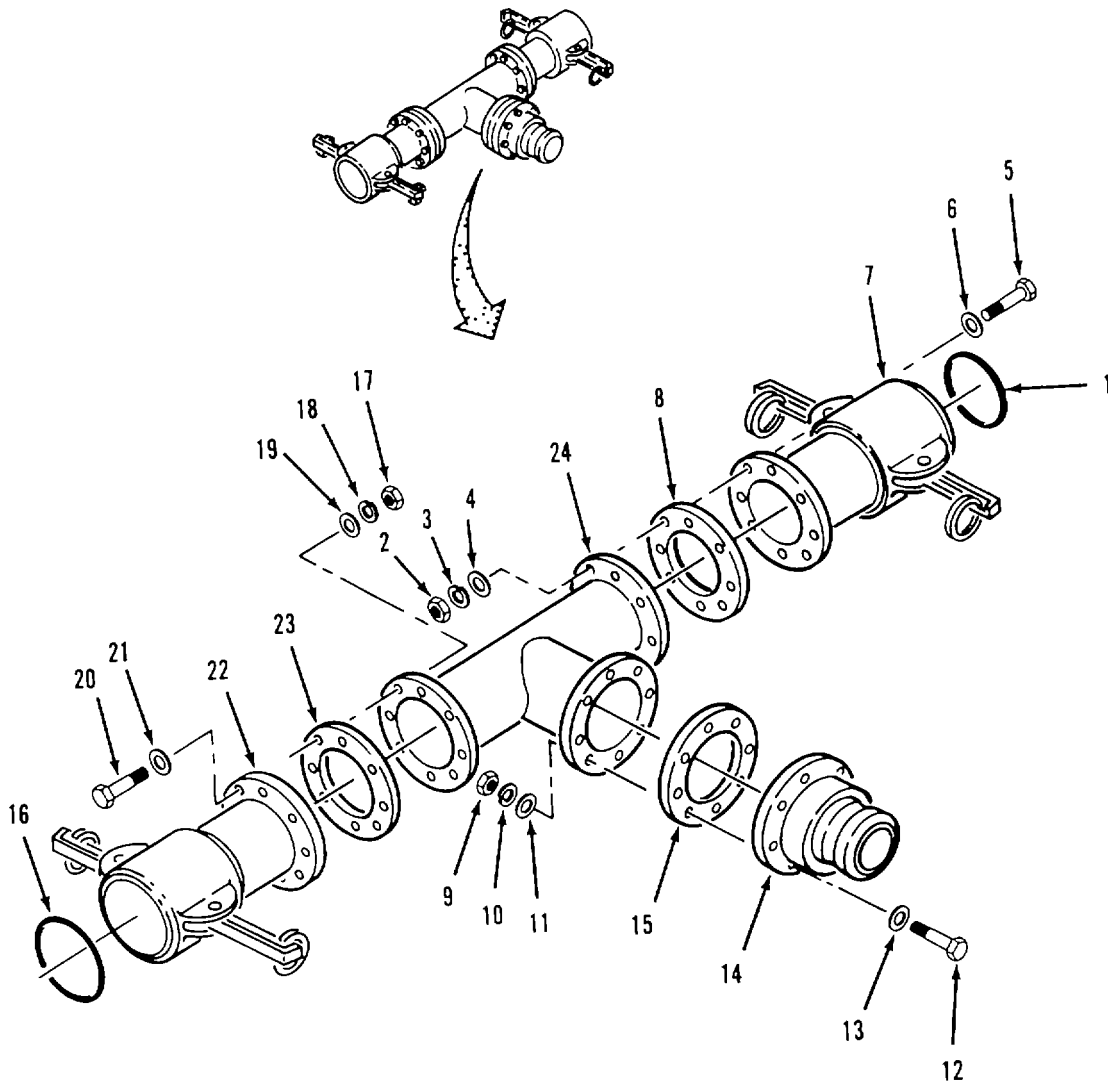

Figure 4-20. Tee Assembly (9112-Y1) Assembly.
- (1) Inspect male coupling (14) for cracks.
- (2) Inspect female couplings (7 and 22) for cracks and damaged lock arms.
- (3) Inspect tee (24) for cracks and corrosion.
d. Repair. Replace defective components. Do not use scaling components.e. Assembly. Refer to figure 4-20.
- (1) Position gasket (23) and female coupling (22) on tee (24).
- (2) Install eight flat washers (21), screws (20), flat washers (19) lockwashers (18) and nuts (17).